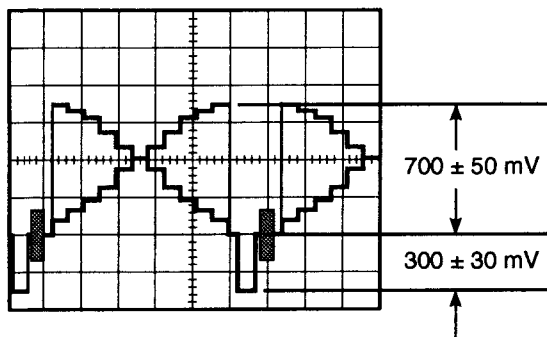

Fig. 5-31
- Confirm that the Video signal becomes 700 ± 50 mV as shown in Fig. 5-31.
- If not, adjust data with the **ARROW** keys so that the Video signal level becomes 700 ± 50 mV as shown in Fig. 5-31.